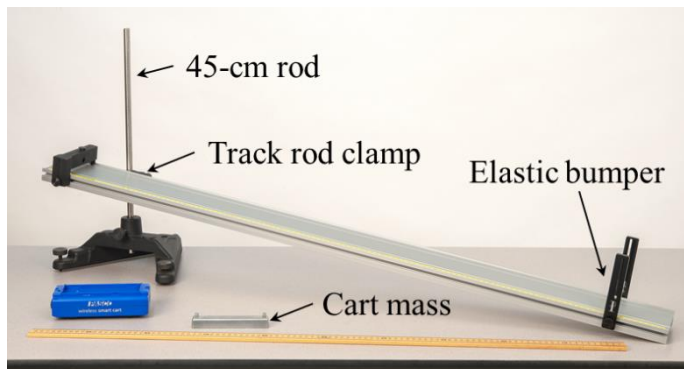

Figure 1: Measuring Acceleration of the Cart Down the Incline
1. Set up the track as shown in Figure 1 using the rod base and 45-cm rod. Note that the lower end of the track rests directly on the table, and that the track feet are NOT used in this experiment. The square nut on the Track Rod Clamp slides into the T-Slot on the track, and allows the track to be secured at various angles.
2. Install the fixed End Stop at the top of the incline (see Figure 1), and an Elastic Bumper at the bottom, using at least two pieces of elastic (see Figure 2).